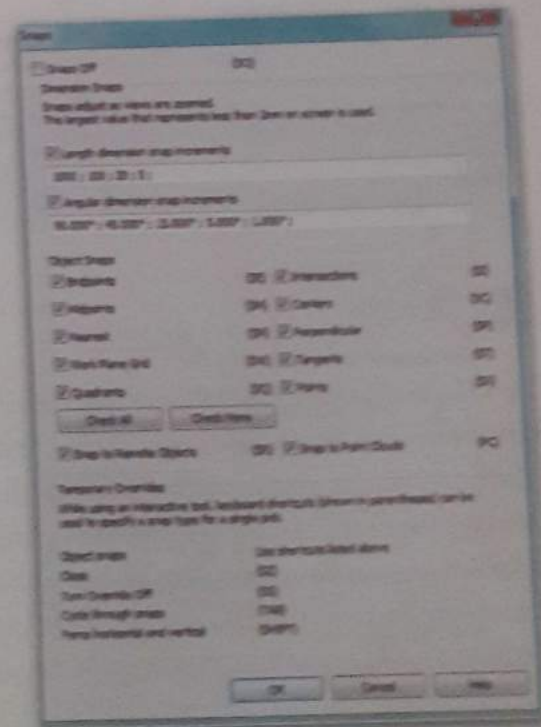

Figure 1: Snaps
Snaps appear when the cursor is moved over geometric points in a sketch, such as endpoints and midpoints. Snaps display individual icons for recognition. You can enable or disable object snaps, and specify dimension snap increments. You can also override snap settings using keyboard shortcuts (Figure 1).
4. Click OK. Figure 1